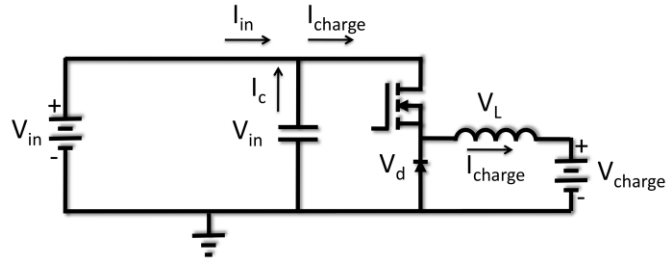

Figure 19: A schematic of a battery-to-battery charger. This is called a DC-to-DC buck converter.
The “switch” in a charger is called a transistor (a MOSFET or IGBT to be specific), and it is able to turn on/off quickly and handle a large amount of current. The on/off switching of the power causes a ripple in the current, which can be harmful to the batteries being charged. An inductor is used to smooth out this current ripple. Also, capacitors are needed as a buffer for the energy supply side. This provides an instantaneous energy source when the transistor is turned on. Thus the capacitors are continuously being charged by the energy source, while simultaneously being drained by the charging batteries. A schematic of a charger is shown in Figure 19. As previously explained, the main components of a charger are the (1) energy source i.e. electrical outlet, (2) capacitor(s), (3) inductor, (4) transistor(s).